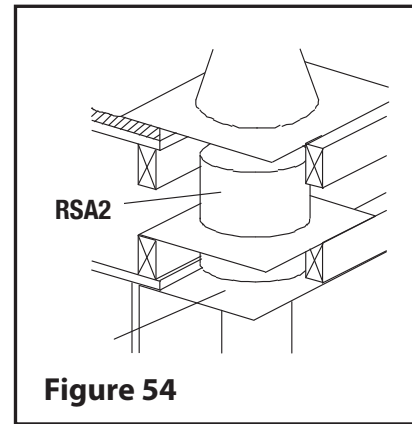

Figure 54
Step 6. At the attic level, install a Firestop (BF), from below and an Attic Radiation Shield (RSA2) from above (see Figure 54).
Step 7. USA ONLY: Install the roof radiation shields in the roof joists. These shields consist of four metal plates. Nail one plate to each side of the joist using (2) 2-1/2" nails.